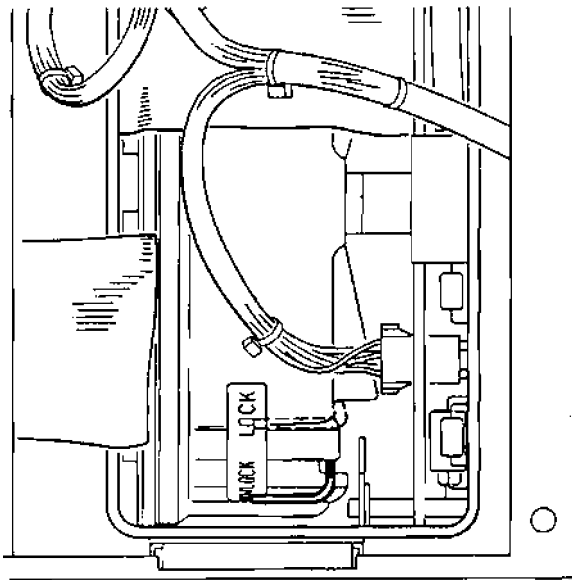

Figure 2-5. Drive Locking Lever
3. Refer to figure 2-5 and note the location of the drive's locking lever. Move the locking lever to the right to clear the ledge and then down to the unlocked position (the lever is fully unlocked when positioned in the notch).